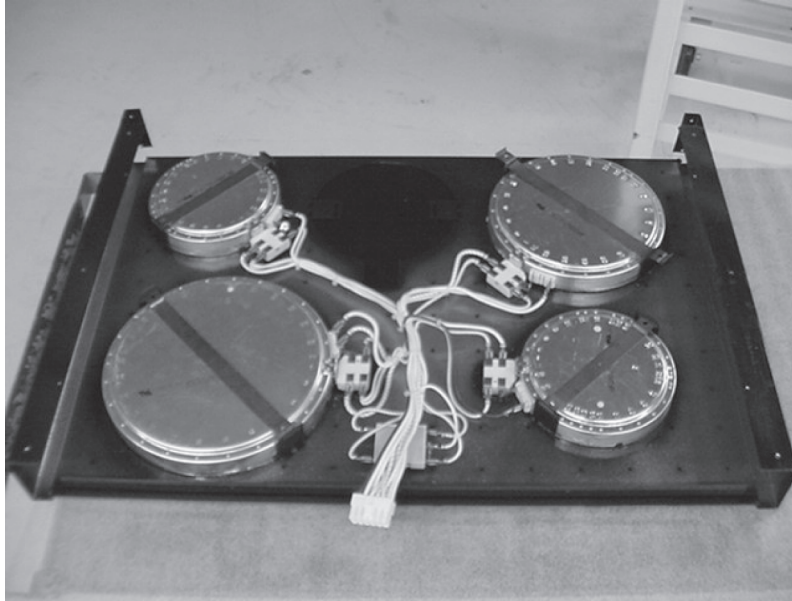

Fig. O-13
3. After Cook Top Assembly is free, turn upside down (glass side down) on a protective surface to prevent scratching (**Fig. O-13**).
4. Remove the (10) screws from Bottom Plate and place to the side.